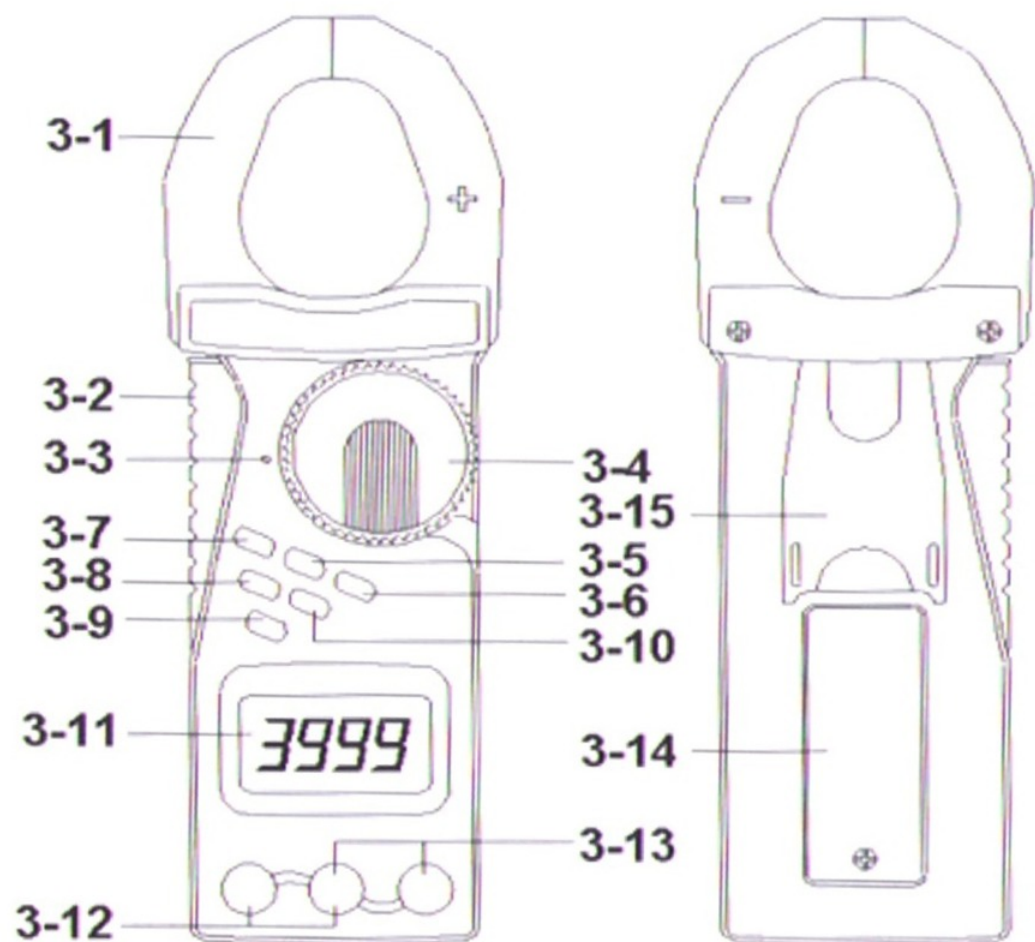

Fig. 1
- 3) If measure " DCV ", select the " Function rotary switch " ( 3-4, Fig. 1 ) to the " V " position then push the " FUNC. button " ( 3-9, Fig. 1 ) for display show "  ".
- 4) If measure " ACV ", select the " Function rotary switch " ( 3-4, Fig. 1 ) to the " V " position then push the " FUNC. button " ( 3-9, Fig. 1 ) for display show "  ".
- 6) Under the operation of " auto range " mode, push the " Range button " ( 3-10 Fig. 1 ) will hold the range.
- 3) Select the " Function rotary switch " ( 3-4, Fig. 1 ) to the "  $\Omega$  " position then push the " FUNC. button " ( 3-9, Fig. 1 ) for display show "  $\Omega$  ".
- 5) Under the operation of " auto range " mode, push the " Range button " ( 3-10 Fig. 1 ) will hold the range.
- 3) Select the " Function rotary switch " ( 3-4, Fig. 1 ) to the
- "  " position then push the " FUNC. button " ( 3-9, Fig. 1 ) for display show "  " .
- 3) Select the " Function rotary switch " ( 3-4, Fig. 1 ) to the "  " position then push the " FUNC. button " ( 3-9, Fig. 1 ) for display show "  " .
- 1) Select the " Function rotary switch " ( 3-4, Fig. 1 ) to the " 2000A " position then push the " FUNC. button " ( 3-9, Fig. 1 ) for display show "  ".
- 2) Press the " Trigger " ( 3-2, fig. 1 ) to open the " Current Sensor Jaws " ( 3-1, Fig. 1 ) & clamp on the measure conductor only.
- a. Recommend use the "auto range "mode typically. However if push the " Range button " ( 3-10, Fig. 1 ) will hold the range.
- 2) Push the " DCA zero button " ( 3-5, Fig. 1 ) at least 2 seconds to let the display show " ZERO " value.
- 3) Press the " Trigger " ( 3-2, fig. 1 ) to open the " Current Sensor Jaws " ( 3-1, Fig. 1 ) & clamp on the measure conductor only.
- 3) If measure "  $\mu\text{A}$  " ( 400  $\mu\text{A}$ , 4000  $\mu\text{A}$  ), select the " Function rotary switch " ( 3-4, Fig. 1 ) to the "  $\mu\text{A}$  " position then push the " FUNC. button " ( 3-9, Fig. 1 ) for display show "  ".
- 4) If measure " mA " ( 40 mA, 400 mA ), select the " Function rotary switch " ( 3-4, Fig. 1 ) to the " mA " position then push the " FUNC. button " ( 3-9, Fig. 1 ) for display show "  ".
All the measuring procedures are same as above 5-8, except push the " FUNC. button " ( 3-9, Fig. 1 ) for display show "  ".